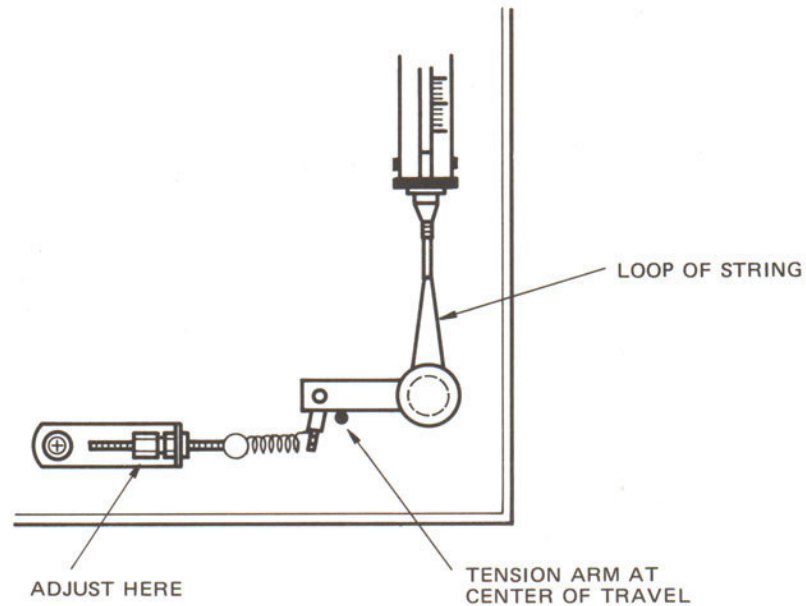

Figure 4-3 Tension Arm Spring Tension Measurement
- (1) Attach the 0 - 2000 gram spring scale to the Tension Arm Roller with a loop of string.
- (2) Pull the spring scale toward the rear of the machine until the Tension Arm is in the middle of its travel, and measure the spring tension. Refer to Figure 4-3.
- (3) If the spring tension is not 500 grams $\pm 10\%$, then loosen the lock nut on the Spring Adjusting Screw by holding the portion closest to the Anchor Bracket and unscrewing the outer portion. Adjust the inner nut as necessary to obtain 500 grams $\pm 10\%$ tension reading on the spring scale. It is good practice to adjust both Supply and Take Up Tension Arms to the same tension within ± 10 grams.
- (4) Tighten the outer portion of the double nut to lock the adjusting screw in place.